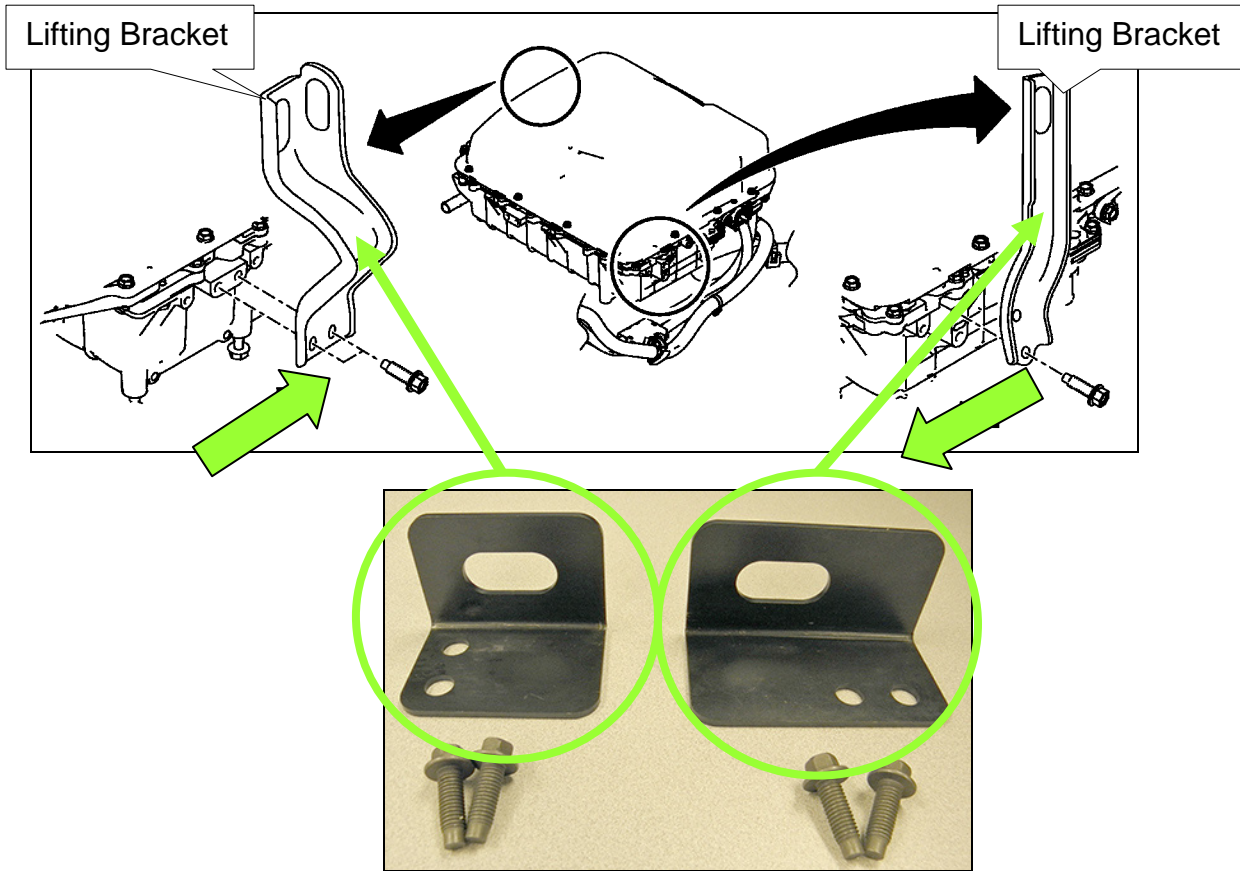

Figure 32
36. Install the PDM Lifting Brackets (J-51193 found in kit J-51032) onto the PDM (Figure 32).